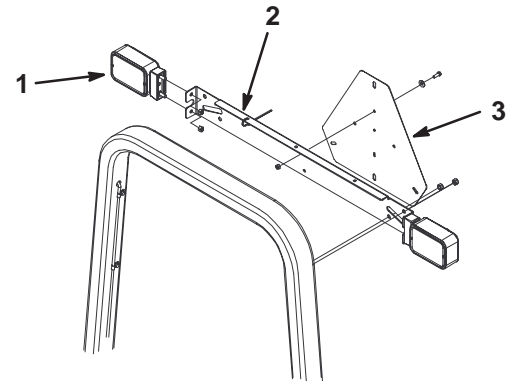

Figure 10
1. Mount a tail light assembly to each end of the light bracket with 2 locknuts (5/16–18) as shown in Figure 10.
2. Loosely mount each end of the light bracket to the ROPS with a U-bolt and 2 locknuts (3/8–16) as shown in Figure 10.